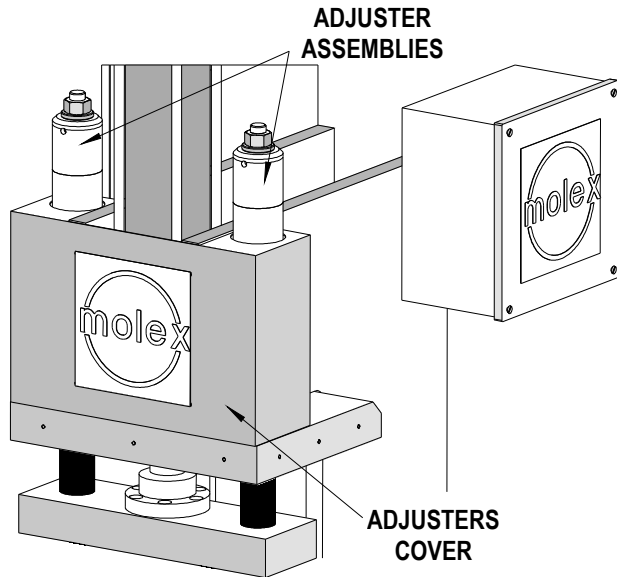

Figure 2-5
7. Bring the adjusters cover down over the ram stroke adjusting assemblies and attach with four (4) M4 BHCS. See Figure 2-5.